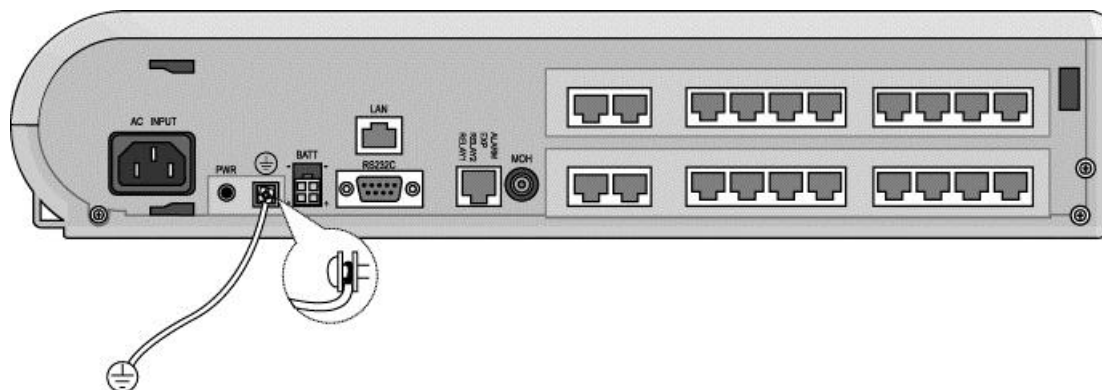

Figure 2.2.5 Grounding the KSU
2. Tighten the screw. Then connect the grounding wire to ground source as shown in Figure 2.2.5.